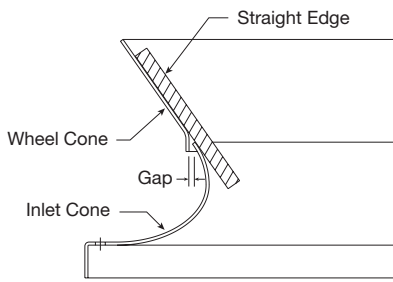

Figure 1
1. Rotate the fan wheel by hand and assure no parts are rubbing. The wheel should rotate freely and be aligned as shown in Figure 1. Wheel position is preset and the unit is tested at the factory.
Alignment - If necessary, adjust wheel position by loosening the wheel hub (see Tapered Bushing Installation and Removal on pages 9 and 10) from the motor shaft so that a straight edge held tight to the wheel cone just touches the inlet cone. Refer to Figure 1.
4. Adjust the axial location of the wheel in the fan relative to the inlet cone (venturi) as shown in Figure 1, page 8. Then tighten the socket head cap screws an eighth turn at a time in an alternating fashion and to a torque of 10 ft·lbs for QT bushings and 9 ft·lbs for SD bushings.